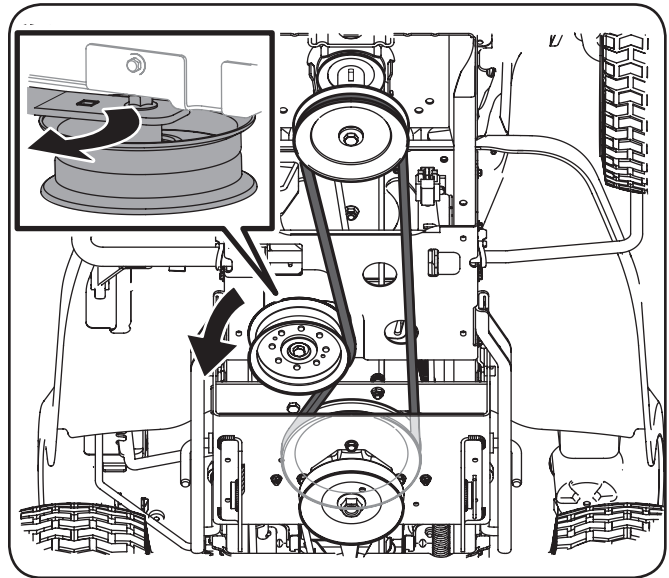

Figure 3-10
10. Route the carriage assembly's belt around the engine pulley (or electric PTO clutch, on models with an **Electric PTO**) as shown in Figure 3-10.